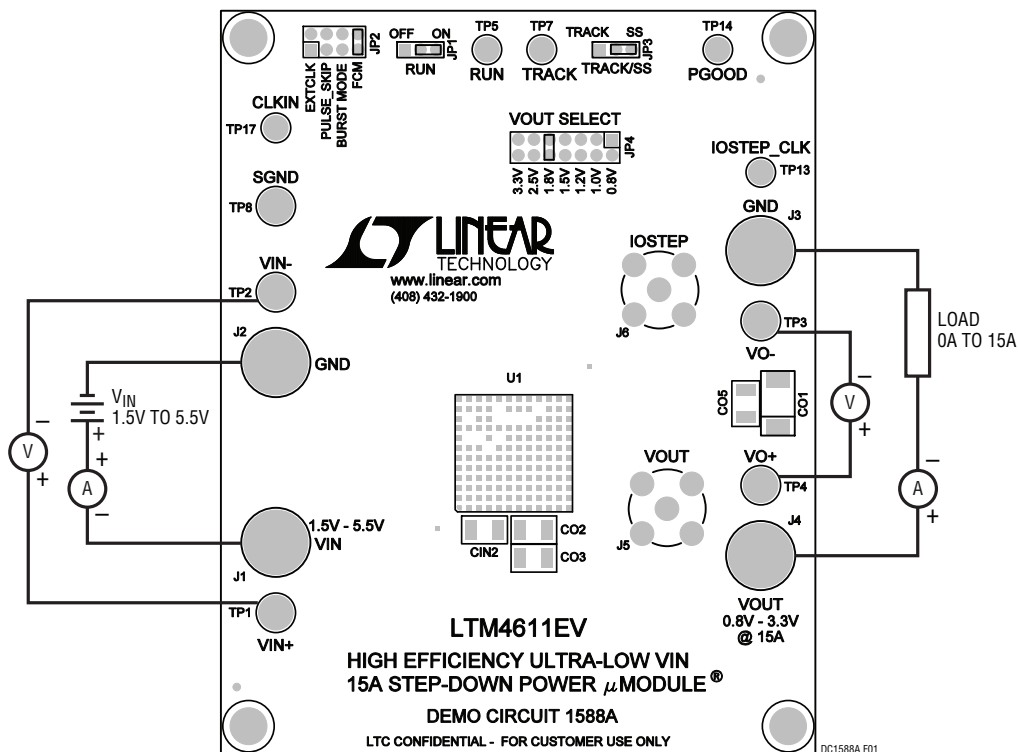

Figure 1. Test Setup of DC1588A
Demonstration circuit 1588A is easy to set up to evaluate the performance of the LTM4611EV. Please refer to Figure 1 for proper measurement equipment setup and follow the procedure below:
2. With power off, connect the input power supply, load and meters as shown in Figure 1. Preset the load to 0A and V_{IN} supply to be 5V.